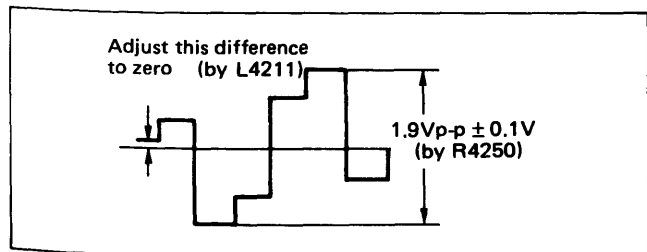

Fig. 44
- 7) Adjust R4250 and L4211 to achieve waveform shown in Fig. 44.